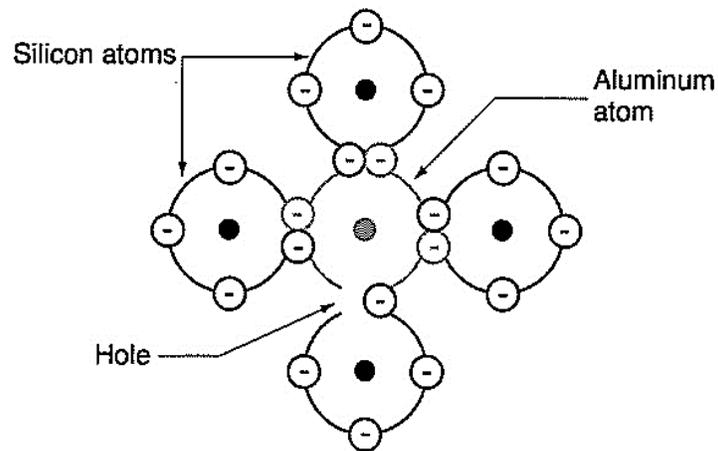

Figure 10.6: *P-Type* Semiconductor Material
- 10-45 The elements aluminum and gallium are examples of impurities that produce materials with "holes" where electrons are missing. Figure 10.6 shows the internal structure of a semiconductor made of silicon with aluminum as an impurity. Notice that there is an electron missing in the structure. The spot where the electron is missing is called a *hole*.